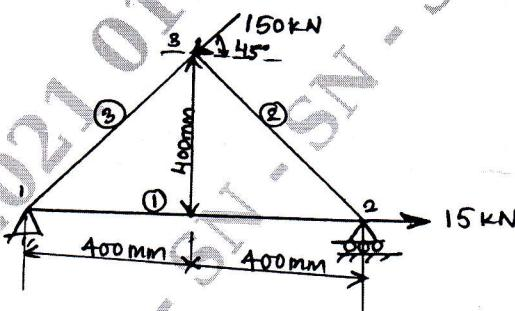

Fig Q3(b)
- b. Consider the three bar truss shown in Fig Q3(b). Determine the nodal displacement and stresses in each member. Find the support reactions also. Take $A_1 = 1500\text{mm}^2$; $A_2 = A_3 = 2000\text{mm}^2$ and $E = 200\text{GPa}$.